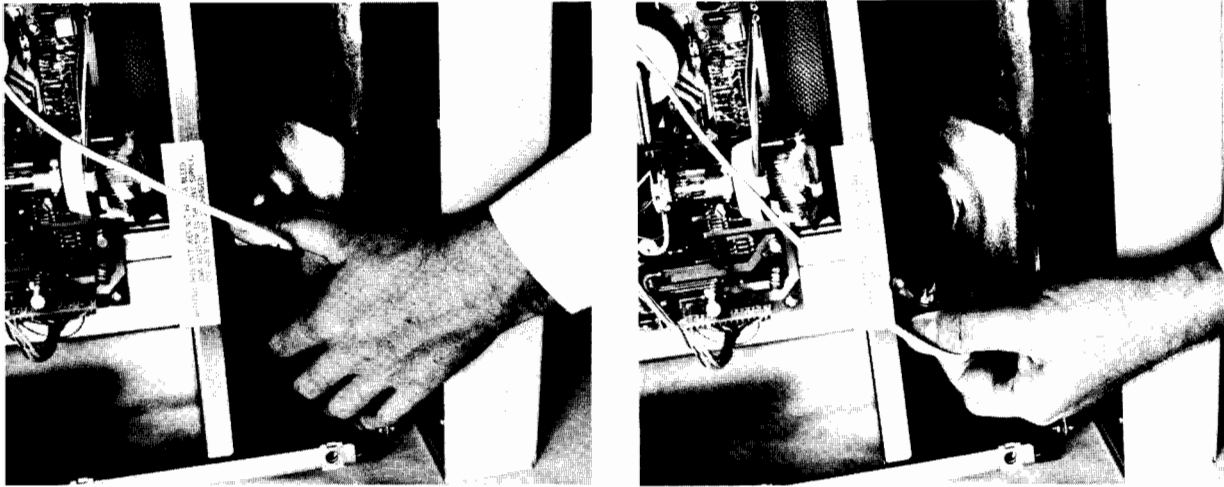

Figure 4-12. Removing the 9836A CRT Anode Connector.
5. Press the anode connector to one side using your thumb. Then rotate it out of the CRT (see Figure 4-12).